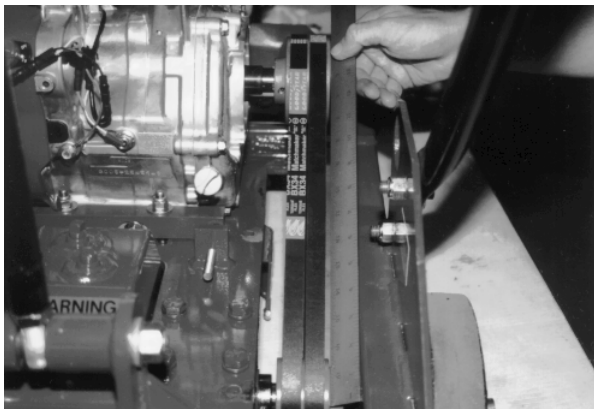

FIGURE 36
5) Belt alignment is checked with the straightedge. Place the straightedge squarely against the arbor shaft pulley. Properly aligned pulleys should also place the straightedge squarely against the engine/motor pulley. Remove the straightedge and rotate the engine/motor pulley 120 degrees. Recheck alignment with the straightedge. Repeat the process until the engine/motor pulley is rotated a full 360 degrees. Maximum allowable misalignment is $\pm 1/32$ inch. If pulley alignment is not within specifications, refer to **INSTALLING A REPLACEMENT V-BELT** for specific information. FIGURE 36.